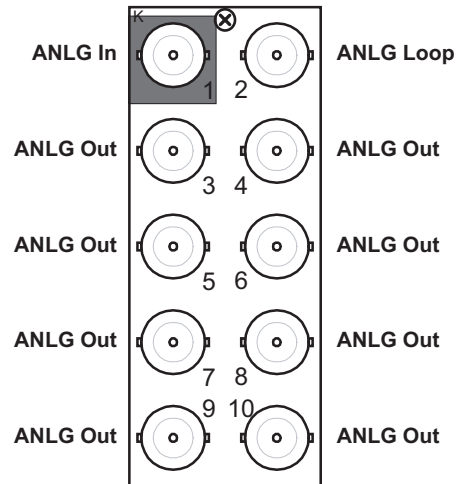

Figure 2.4 Cable Connections for the 8310AR-032 and 8320AR-032 Rear Modules
- **8310AR-032** Rear Module — Each rear module occupies one slot and accommodates one card in the DFR-8310 series frames. This rear module provides eight analog video outputs, a single analog video input, and an input looping connection. Refer to **Figure 2.4** for cable connections.
provides eight analog video outputs, a single analog video input, and an input looping connection. Refer to **Figure 2.4** for cable connections.